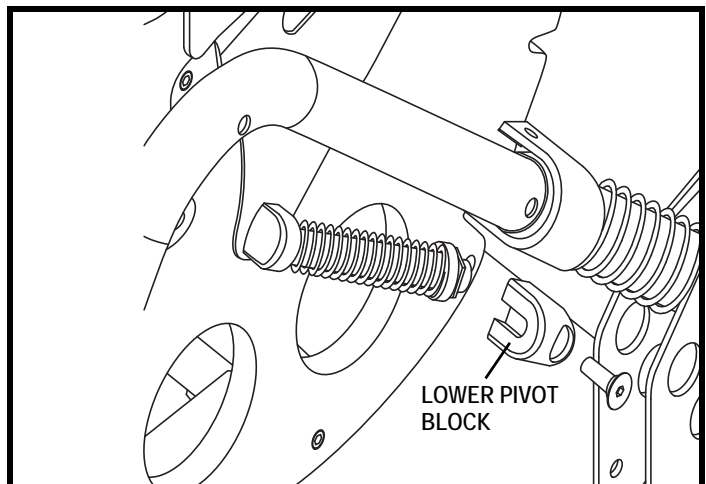

Figure 39. Changing Extension Limit and Force (Kids ROCK 2 and ROCK 3)
4. Using a 5/32-in. hex wrench and a 7/16-in. nut driver, remove the bolt from the lower pivot block below the spring and then pull the block away from the black plate. See figure 39.